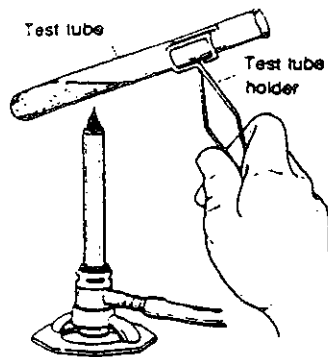

Figure 6. Heating a liquid in a test tube.
4. Hold the test tube in a slanting position in the flame, and gently heat the tube a short distance below the surface of the liquid (Figure 6).